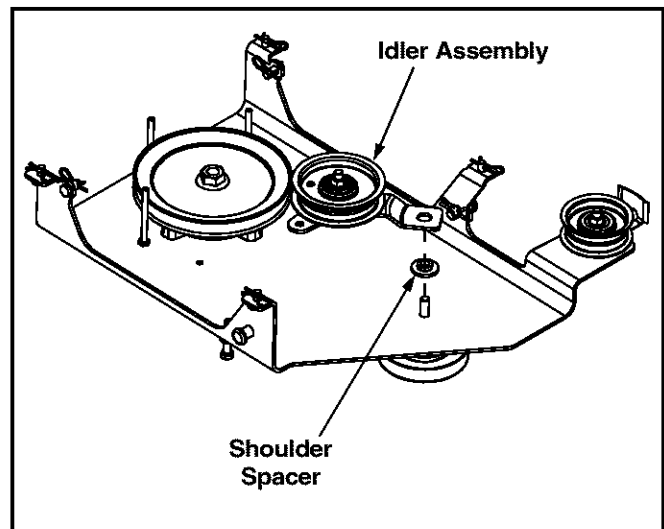

Figure 3
- Position the shoulder spacer and idler assembly (packaged separately) over the hex screw on the surface of the undercarriage. See Figure 3.